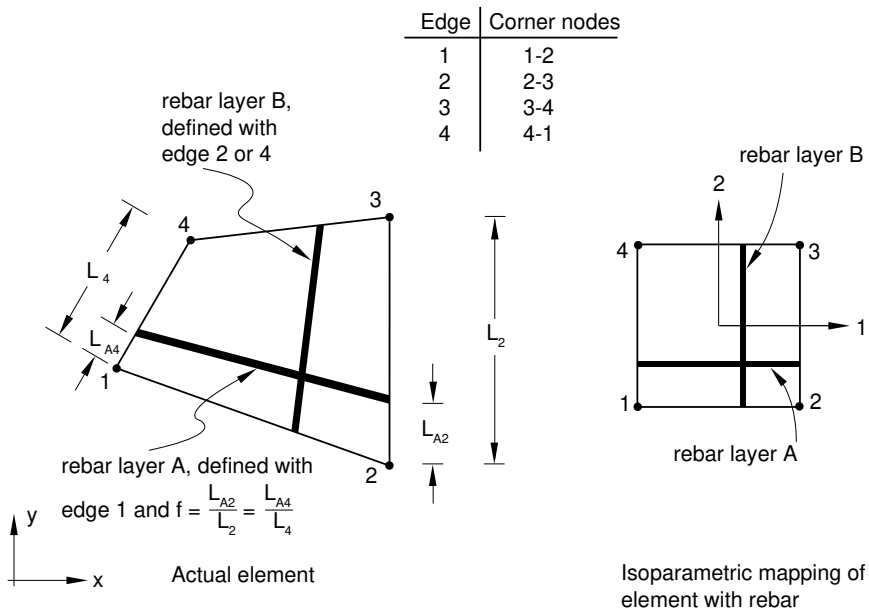

Figure 4: Rebar layer definition in solid elements with GEOMETRY=ISOPARAMETRIC.
6. Edge number from which the rebar are defined. See Figure 4 or Figure 7.